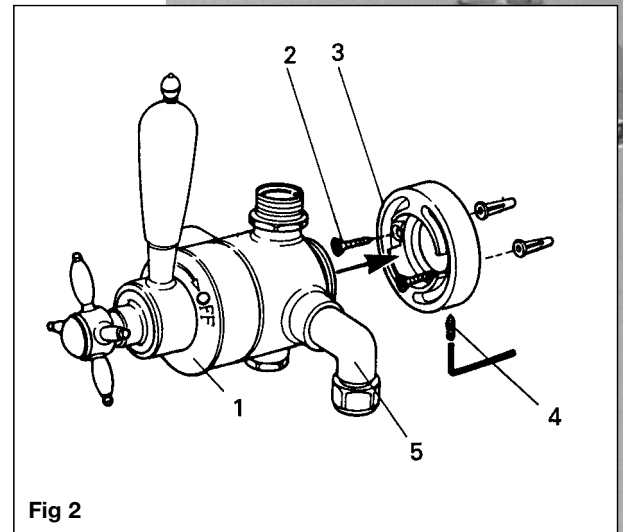

Fig 2
All the following instructions refer to figures 2 & 3.
- Tighten inlet elbows (Fig 2) (5) fully clockwise into the valve body, and unscrew up to 1½ turns to desired position.
- Select mixer valve position, and place the valve mounting bracket (3) against the wall, with retaining screw hole on the underside. Mark the fixing points, drill and fix using the unplated screws (Fig 2) (2) and plugs provided.
- Push valve body (Fig 2) (1) onto mounting bracket (3). Mark pipes appropriate to the position of the inlet elbows. Remove valve from bracket and cut off pipes at the marked level.
- Using the retaining screws (Fig 2) (4) on the mounting bracket to secure the valve.